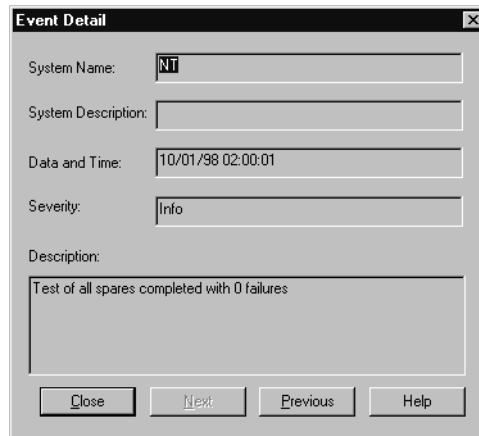

Figure 3-3. Event Detail Dialog Box
- 3 To view detailed information about an event, Doubleclick the list entry. The Event Detail dialog box appears, as shown in Figure 3-3.
- 3 To view detailed information about an entry on the list, double-click the entry. The Event Detail dialog box appears, as shown in Figure 3-3 on page 3-9.